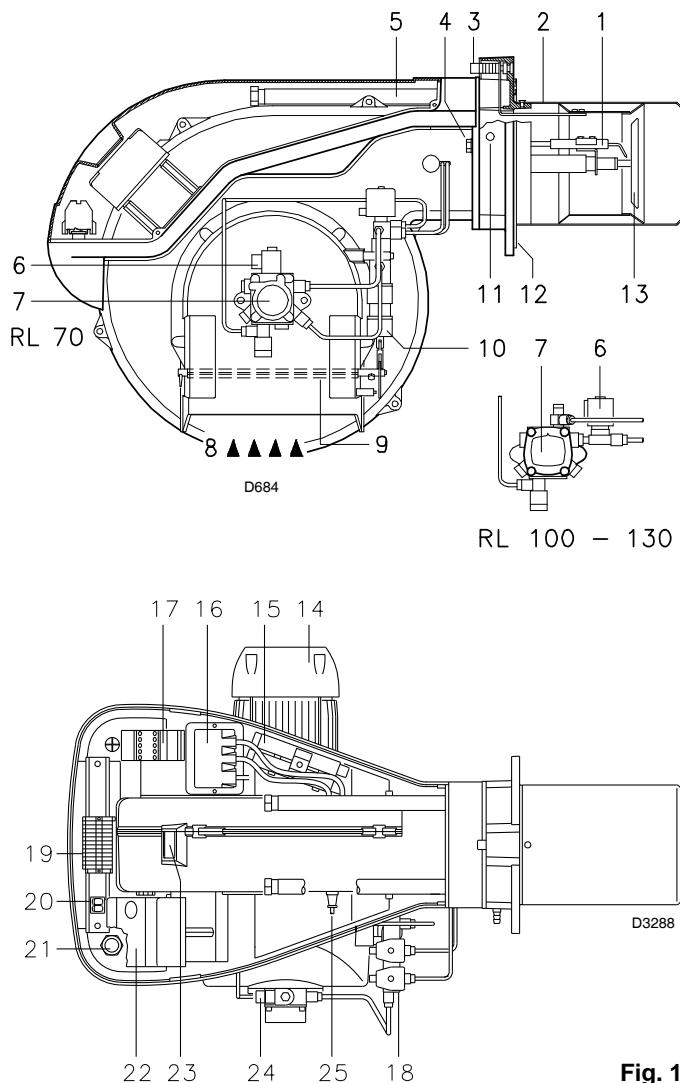

Fig. 1
#### 4.3 Burner description (Fig. 1)
**Control box lock-out:** if the control box 22)(Fig. 1) pushbutton (red led) lights up, it indicates that the burner is in lock-out. To reset, hold the pushbutton down for between 1 and 3 seconds.
**Motor trip:** release by pressing the pushbutton on thermal cut-out 17)(Fig. 1).
- 2 Extensions 15)(Fig. 1) for slide bars 5)(Fig. 1)